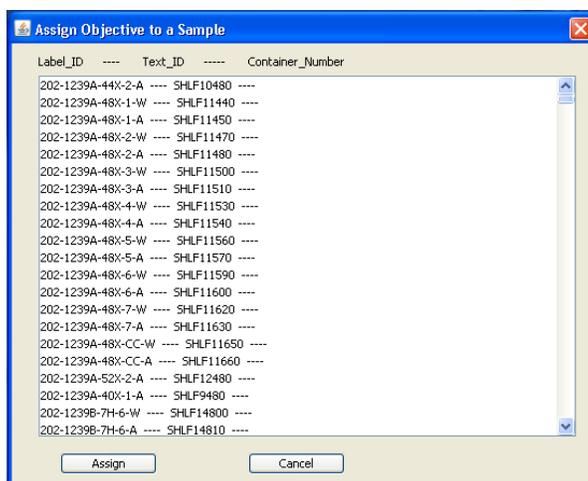

Figure 9. Assign Objective to a Sample from LIMS Screen.
4. A list of all samples logged into LIMS for the analysis in the *Objective* field will display (**Figure 9**). Select the sample that was just weighed and click **Assign**.
4. A list of samples logged into LIMS for the analysis in the *Objective* field will display (**Figure 9**). Select the appropriate sample ID from the search list and click **Assign**.